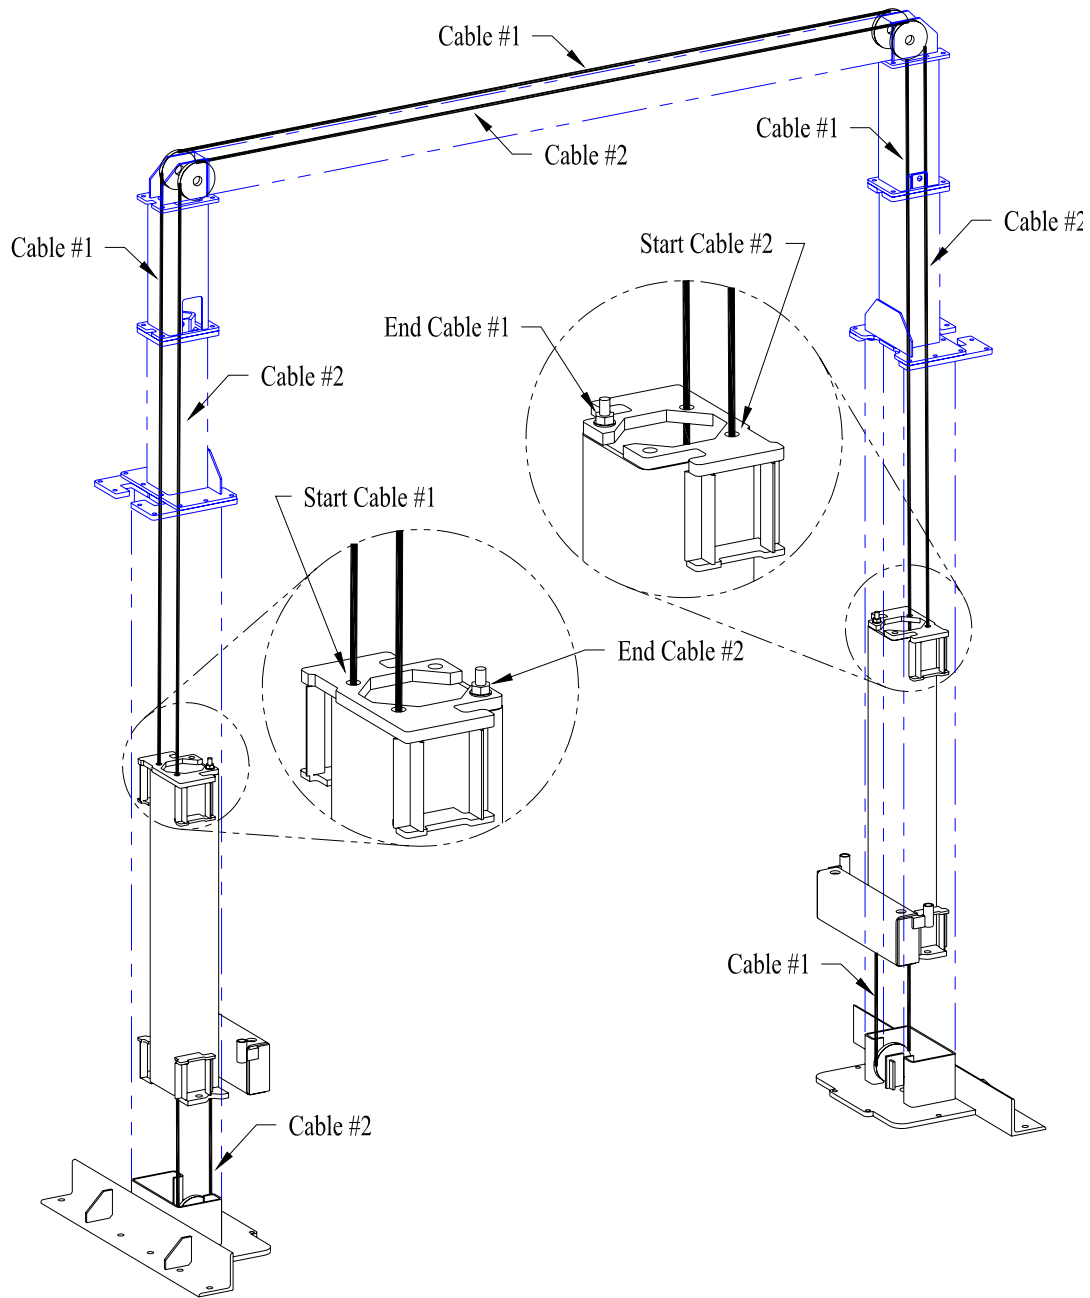

Figure 11
- D. Running the cables, figure 11.